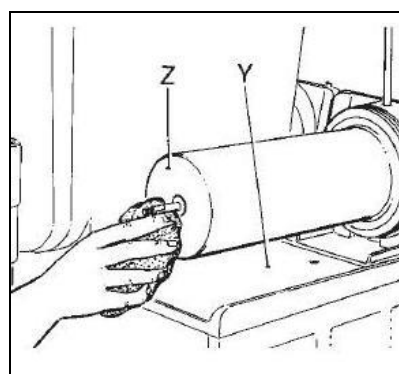

Fig. 6
- **T**horoughly wash the evaporator and the drip tray surfaces with a sponge soaked with the sanitizer (see fig.6).